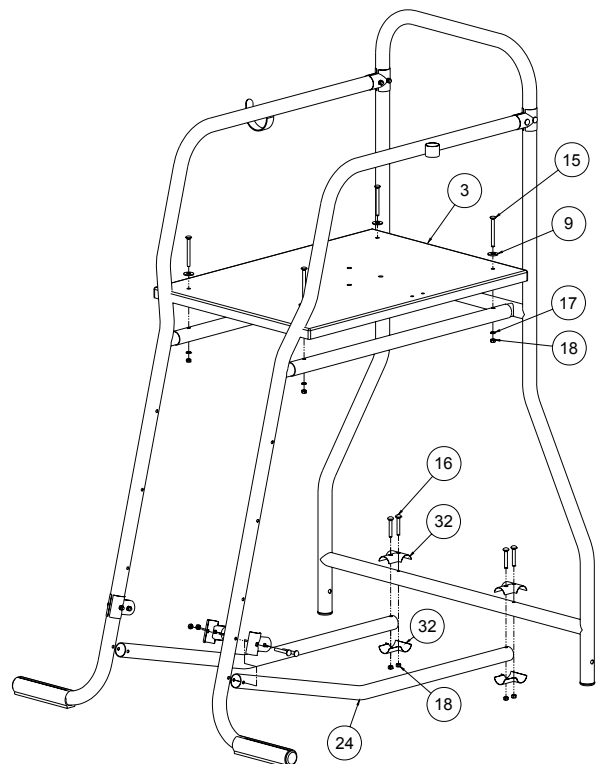

FIGURE 5
3. Attach footboard to both cross tubes using (4) 3/8"x4" carriage bolts, 1/2" flat washers, 3/8" lock washers, and 3/8" hex nuts. Attach the two bottom rails with (8) split tee halves, 3/8" x 2-1/2" carriage bolts and 3/8" hex nuts. See **FIGURE 5**.